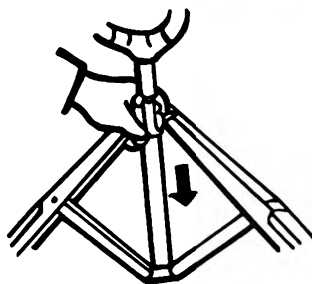

Figure 4.
4. Depress the bipod friction lock and extend the legs (figure 4).